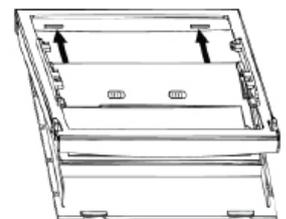

Fig.8
- c. Insert tabs of the front lens-retaining frame under the two slots of the back lens-retaining frame (Fig. 8).